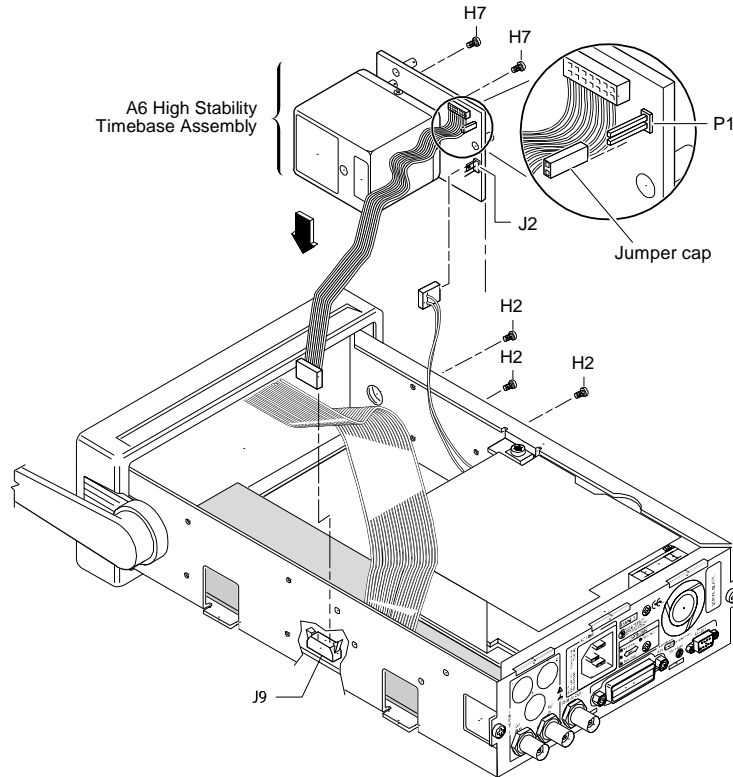

Figure 4-2. High Stability Timebase Retrofitting (Option 001, 010, 012)
- 4 Plug the oven oscillator into the socket on A6 Timebase Support Board, and secure the oven oscillator to A6 using the two Pozidriv screws (H7) as shown in Figure 4-2.**
- 5 If you are retrofitting the Option 001 Medium Stability Timebase, remove the jumper cap on P1 of A6 Timebase Support Board as shown in Figure 4-2.**
- 6 Mount A6 High Stability Timebase Assembly on the left side using three TORX 10 screws (H1) as shown in Figure 4-2.**
- 7 Plug the power supply assembly's two-wire cable into the three-prong connector (J2) on the high stability timebase assembly as shown in Figure 4-2 (if the two-wire cable exists).**
- 8 Connect A6 High Stability Timebase Assembly cable to connector J9 on A1 Motherboard Assembly as shown in Figure 4-2.**